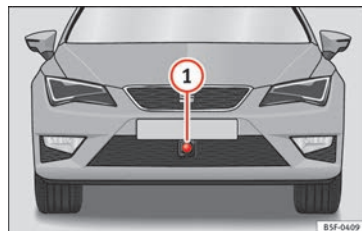

Fig. 151 On the front bumper: radar sensor.
» **Fig. 151 ①**. This sensor can detect vehicles in front up to a distance of approximately 120 m.